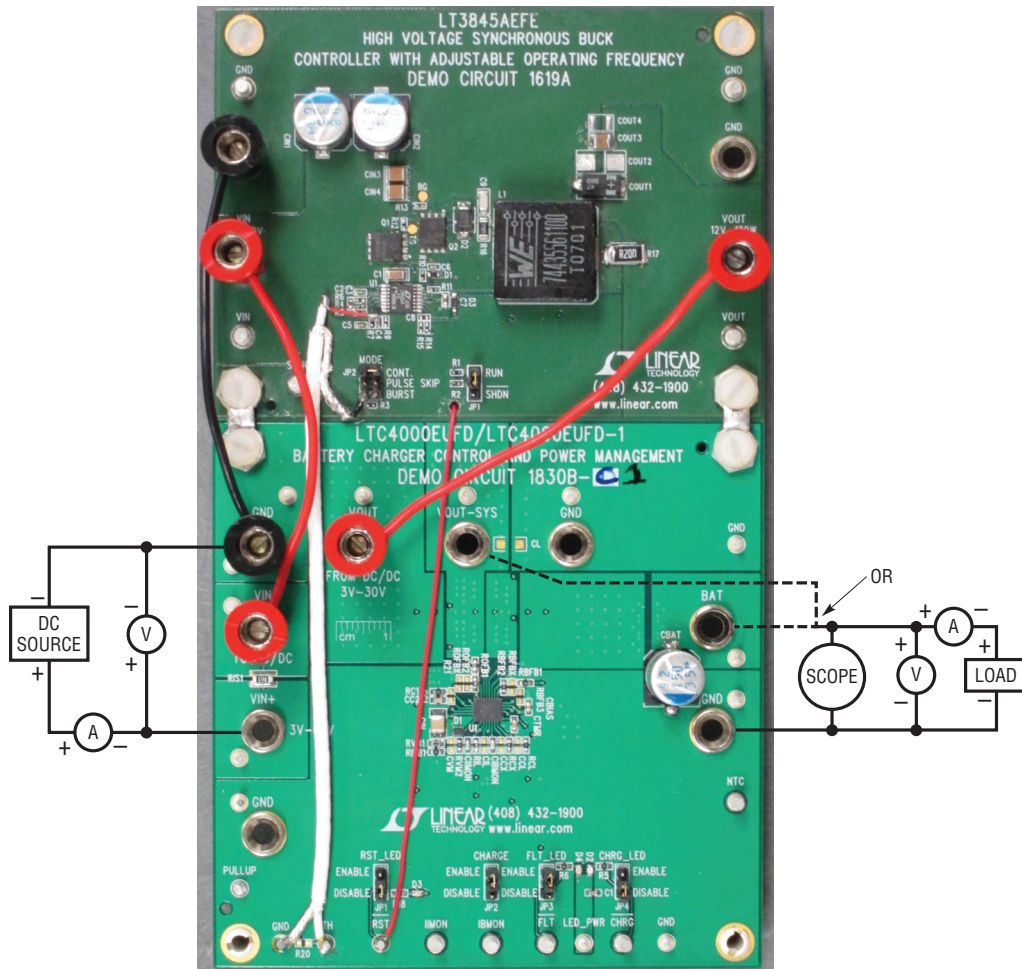

Figure 1. Fixture Connections and Measurement Equipment Setup
Once the circuit has been customized to suit the application at hand, it is easy to set up to evaluate the performance of the LTC4000-1 when combined with a suitable switching power converter, such as the LTC3845A. Voltages and currents cited in this procedure are for the design as delivered; if the design has been customized, substitute the appropriate values. Refer to Figure 1 for proper measurement equipment setup and follow the procedure below:
- If efficiency measurements are desired, refer to Figure 1 for the test setup.